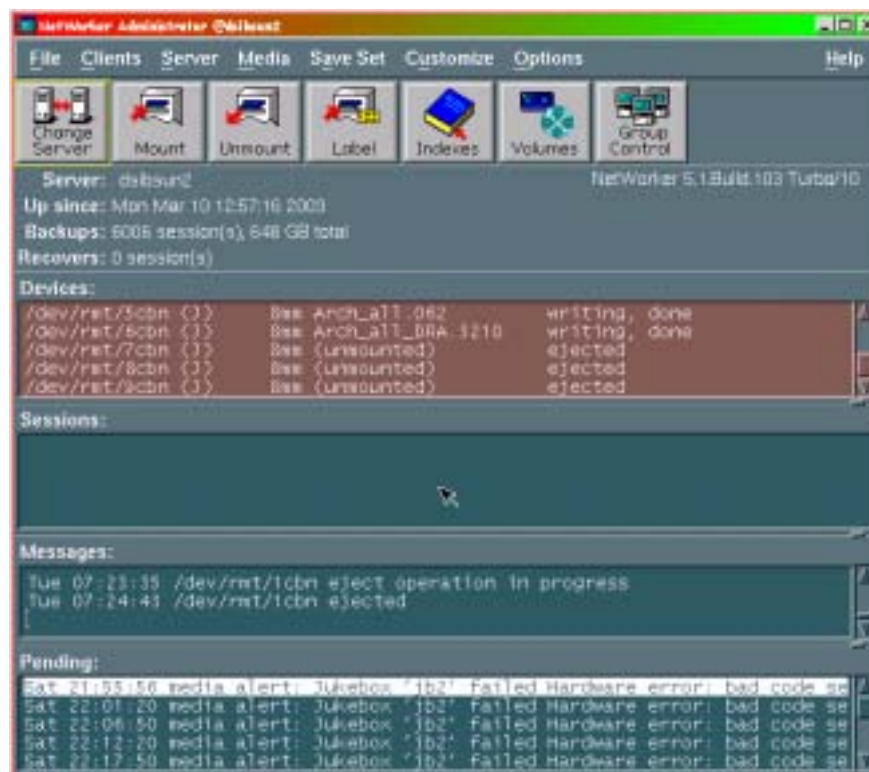

Figure 18.1 – NetWorker Administrator Screen
12. Click Volumes on the main network screen shown in Figure 18.1 to ensure that all the tapes are labeled.